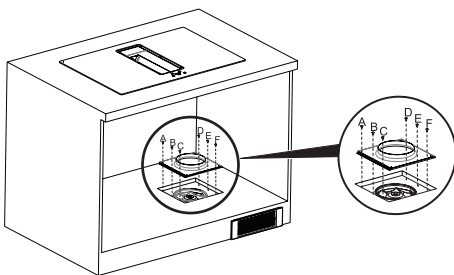

Fig. 41
5. Draw a circle to mark the opening location, not a rectangle Air extraction duct with the screws A, B, C, D, E, F (Fig. 41).